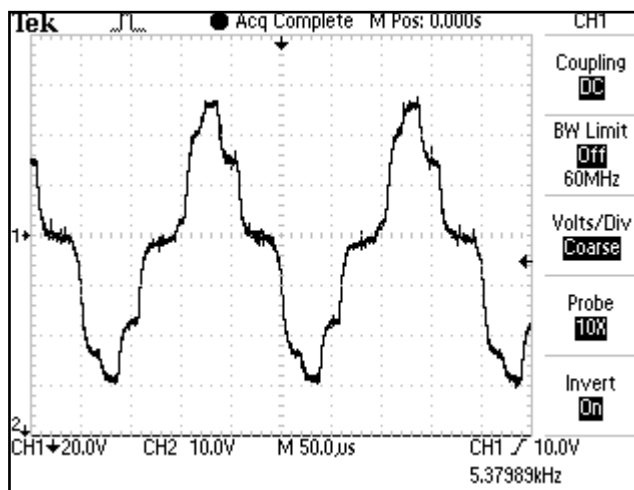

FIGURE 4.2
A. IFC (Interferential) Traditional (4 Pole)- Figure 4.2